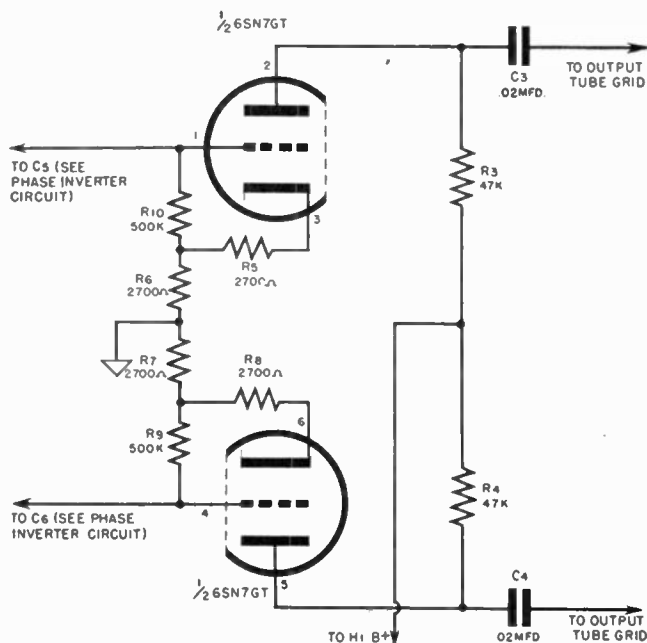

Fig. 5-25. Driver circuit for seven-tube amplifier.
d) Driver Circuit. See Figure 5-25.